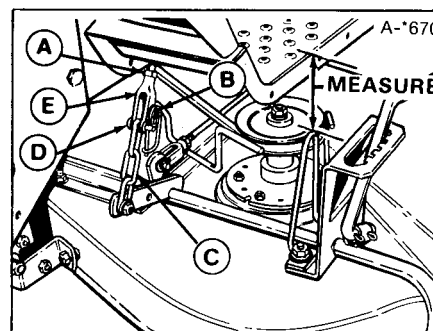
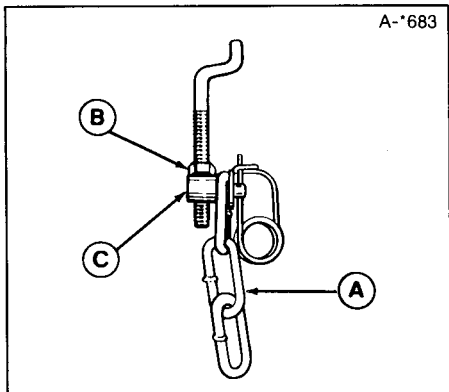

Figure 44. Lift Assembly - Small Lift Lever
Figure 46. Lift Assembly - Large Lift Lever.
- Measure the distance between top of upstop bracket and bottom of footrest (figure 44). The measurement should be 3-1/4".
- To adjust, disconnect clevis (E, figure 44) from chain. Loosen the nut, and turn clevis to raise or lower mower. Tighten nut when measurement is correct.
- The measurement should be 6". To adjust, disconnect trunnion (figure 46) from chain. Loosen the nut (B) and turn the trunnion to raise or lower mower. Tighten nut when measurement is correct.
In the next step, refer to figure 44 if small lift lever is used or figure 46 if large lift is used.
- To adjust, disconnect clevis (E, figure 44) or trunnion (C, figure 46) from chain. Loosen the nut, and turn clevis or trunnion to raise or lower mower. Tighten nut when measurement is correct.